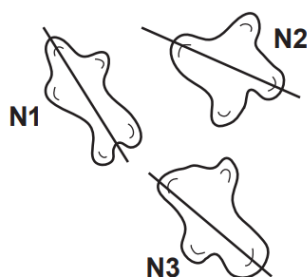

Fig. 2.3
The student used the microscope to observe and draw three starch grains to the same scale. The student drew a line across the length of each drawing of a starch grain. The student's drawings are shown in Fig. 2.3.
(iv) Find the mean **image** length of the three starch grains drawn by the student, along the lines shown in Fig. 2.3.
- (v) When viewed using the microscope, the student found that starch grain **N1** measured 4 eyepiece graticule units along the position of the line drawn in Fig. 2.3.
Use this information and your answer to **(a)(iv)** to calculate the mean **actual** length of the three starch grains in Fig. 2.3. [2]